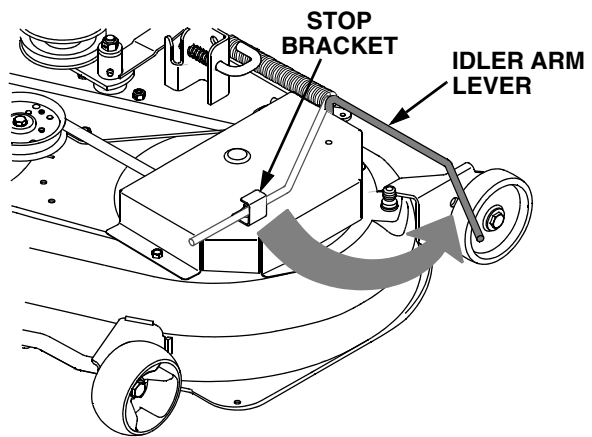

Figure 39
2. Lower the mower deck by moving the implement lift handle to its lowest setting. Disengage the deck idler arm lever from its stop bracket and release the spring tension by rotating the lever out and rearward (See Figure 39).